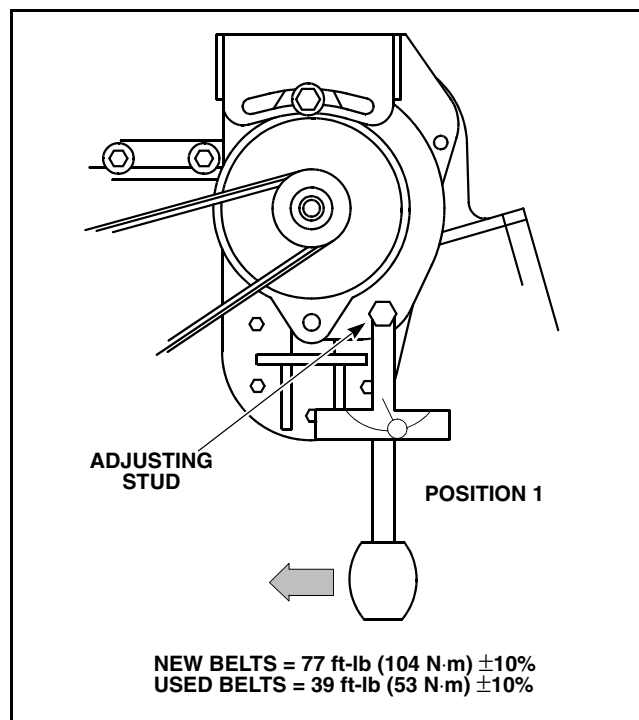
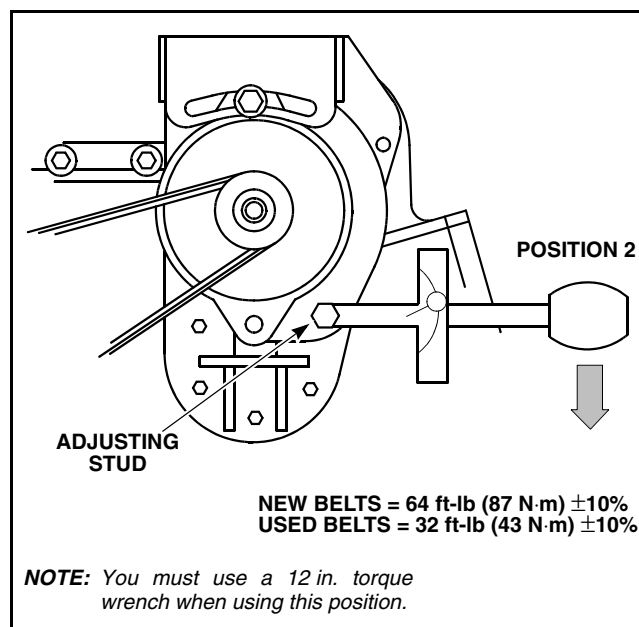

Figure 4.05-9 Torque Requirements Using Torque Wrench in Position 1 (Recommended)
Figure 4.05-10 Torque Requirements Using Torque Wrench in Position 2 (Alternate)
4. Tighten adjusting stud with torque wrench in Position 1 (recommended – see Figure 4.05-9) or in Position 2 (alternate – see Figure 4.05-10). Make sure torque wrench is held at angle shown in the applicable figure. Torque values are different for new and used belts.